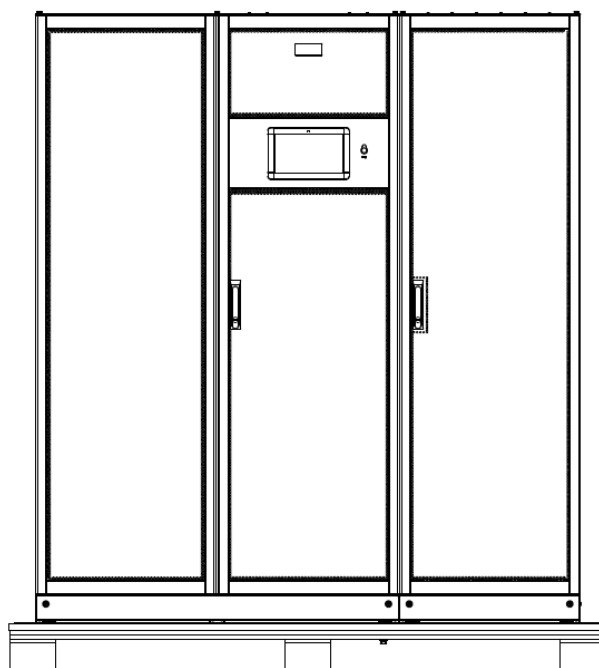

Figure 3-16 Remove the protective foam
Step 4: Remove the protective foam around the cabinet as Figure 3-16;